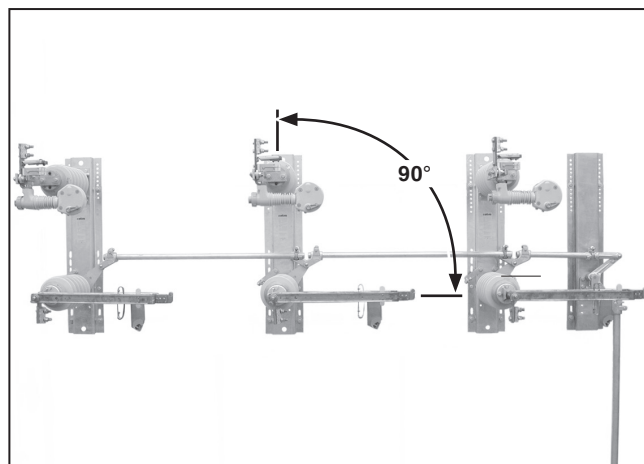

Figure 31. Checking the switch blades are 90 degrees from the Closed position.
- (c) With the operating handle as far as it will go in the opening direction, the switch blades are 90 degrees from the **Closed** position. See Figure 31.